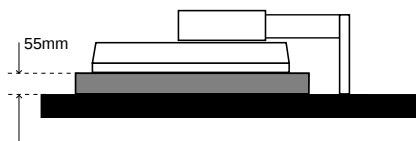

Figure S.1
3. Place monitor face down on a non-abrasive surface. Place the screen on a 2-inch platform so that the stand is parallel with the surface (Figure S.1).